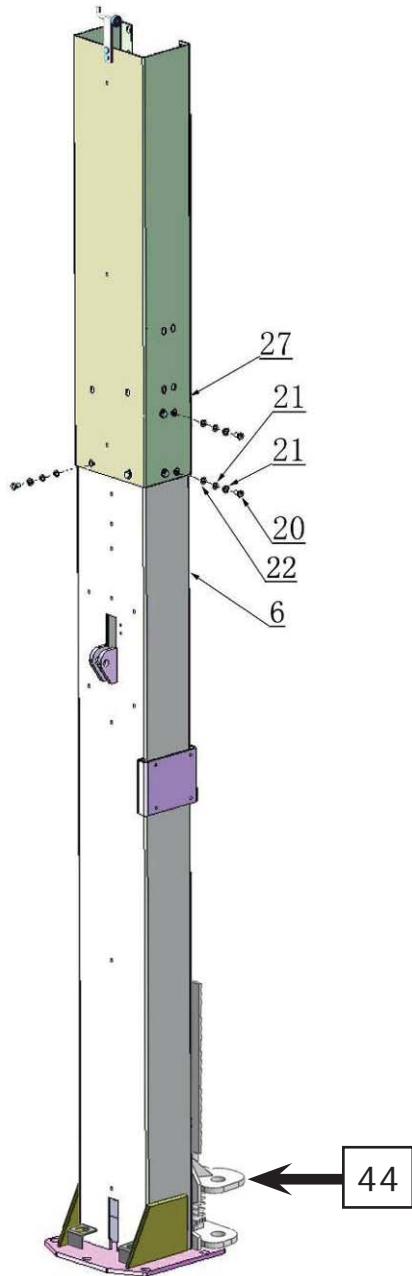

Fig. 13 - Low Setting
1. When the ceiling height is less than (151 1/2") for PV-9P, (175 5/8") for PV-9HP, connect the outer columns with the upper holes (**See Fig.13**).